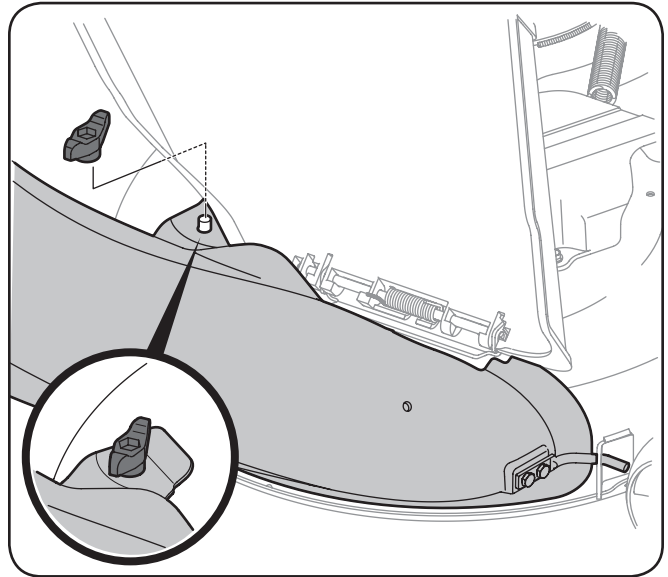

Figure 4-15
4. Secure the chute elbow to the deck using the wing knob 720-04122 from hardware pack 689-00318A. See Figure 4-15.